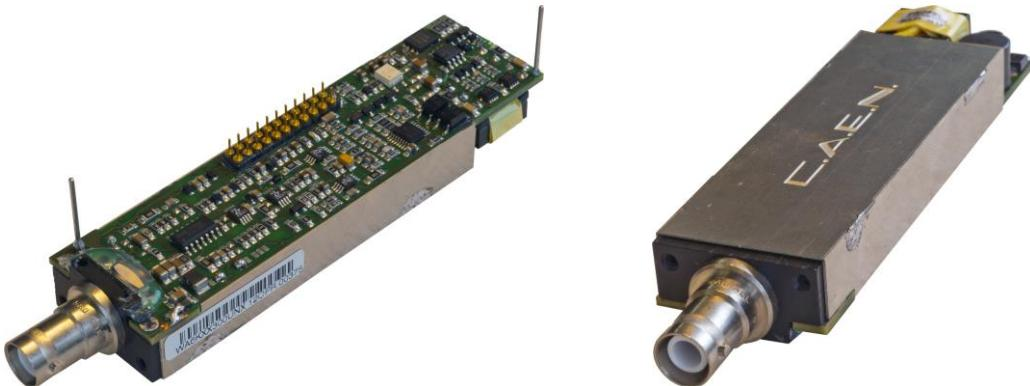

Fig. 6.1: HV output component
The Dual Digital MCA houses High Voltage (HV) outputs to power supply up to two detectors (the HV component is shown in Fig. 6.1). The board is orderable with either positive, negative or mixed polarity (see Tab. 1.1). HV outputs are delivered through SHV connectors.